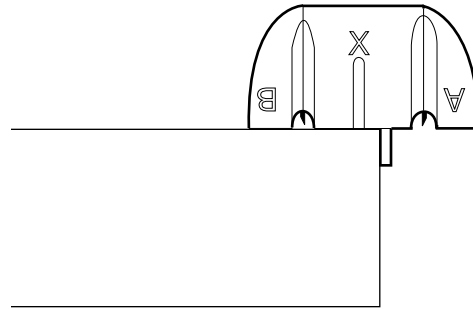

Figure 10
6.5 Using the corner of a flat surface, such as a counter top or bench, press the tool down flush so that individual parts of the tool are properly aligned (Figure 10).